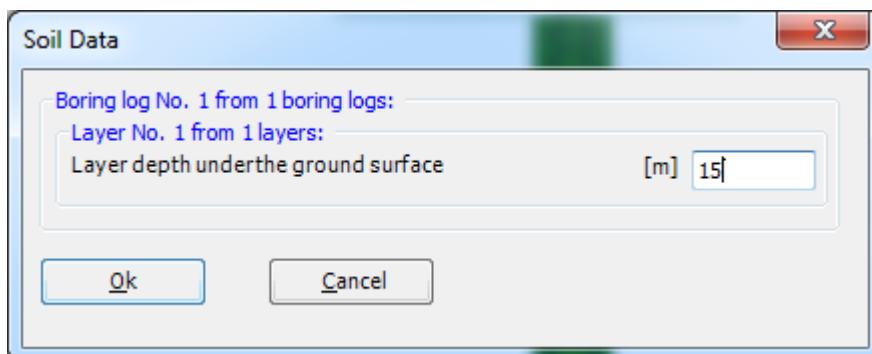

Figure 3.15 "Layer depth under the ground surface" edit box
- Double-click on the layer depth. The corresponding dialog edit box to modify the layer depth under the ground surface appears, Figure 3.15